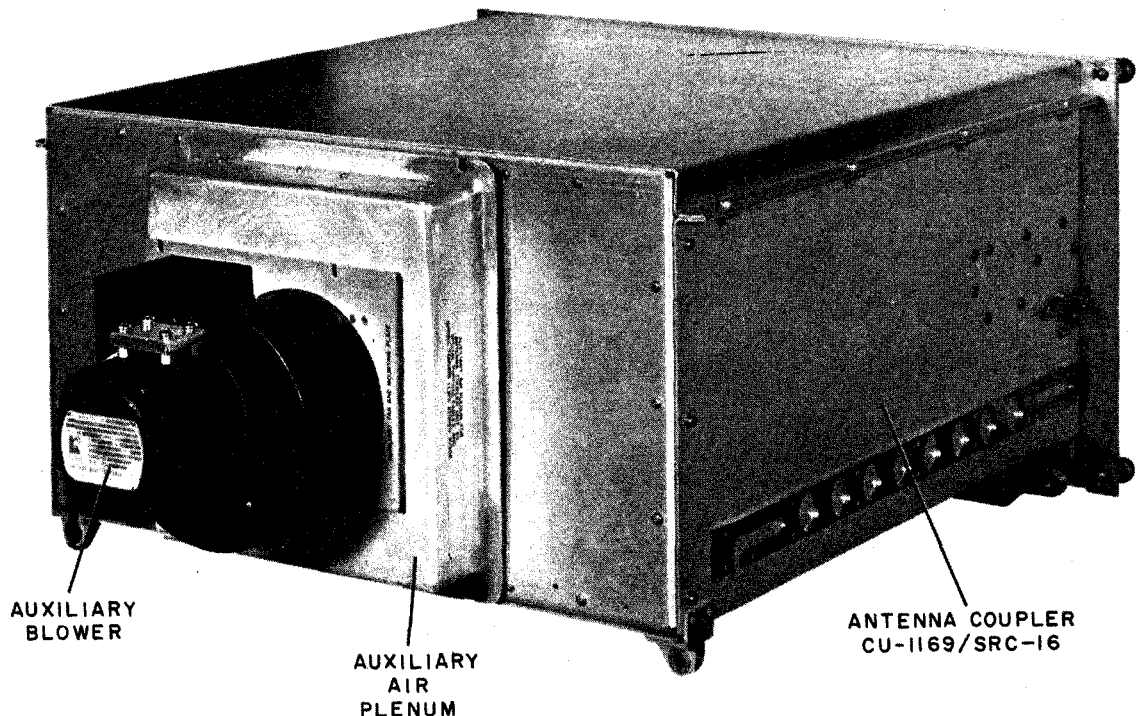

Figure 5-1. Antenna Coupler CU-1169/SRC-16, Auxiliary Air Plenum and Blower Installed
(1) Extend the antenna coupler on the cabinet slides.
(2) Install auxiliary air plenum by hooking top clips to antenna coupler case before hooking bottom clips. Press plenum in and down to fasten bottom clips.
(3) Install auxiliary blower by hooking top clips to air plenum before hooking bottom clips. Press blower in and down to fasten bottom clips. Figure 5-1 shows the auxiliary blower and air plenum properly installed.
(4) Insert blower pendant cable into the auxiliary blower power jack on CY-4032/SRA-34(V).